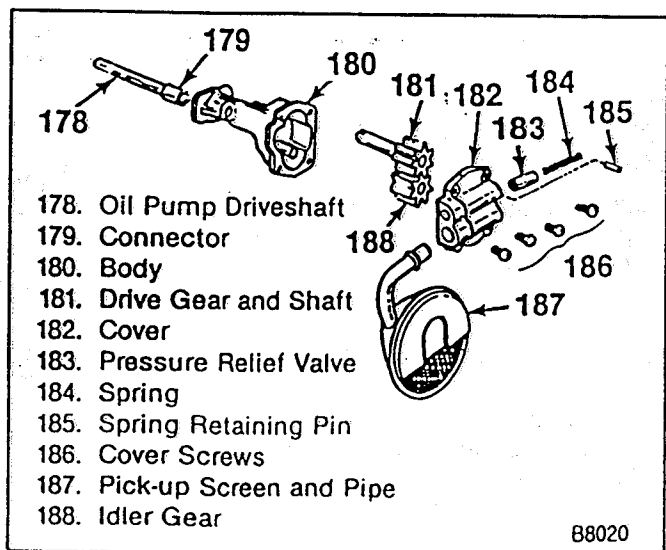

Figure 52—Oil Pump Components (5.0L and 5.7L Engines)
Disassemble (Figures 52 and 53)
- Pressure relief valve (183) for fit. The regulator valve should slide freely in its bore without sticking or binding (figures 52 and 53).
Assemble (Figures 52, 53, and 54)